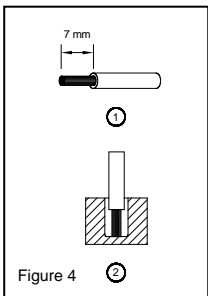

Figure 4
(1)	0.82-5.3	18-10	4.5	3.9
(2)	3.3-5.3	12-10	4.5	3.9
To secure reliable and shock proof connections, the stripping length should be 7 mm (see Fig. 4 (1)).
Please ensure that wires are fully inserted into the connecting terminals as shown in Fig. 4 (2).